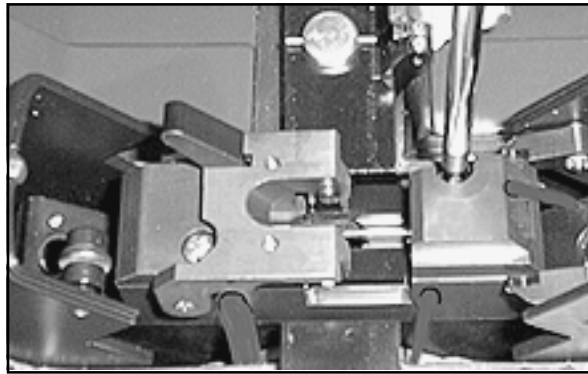

Fig. 94a - Loosening the front electrode lock fixing screw
1. Loosen the electrode lock's fixing screws and remove them (figs. 94a and 94b).